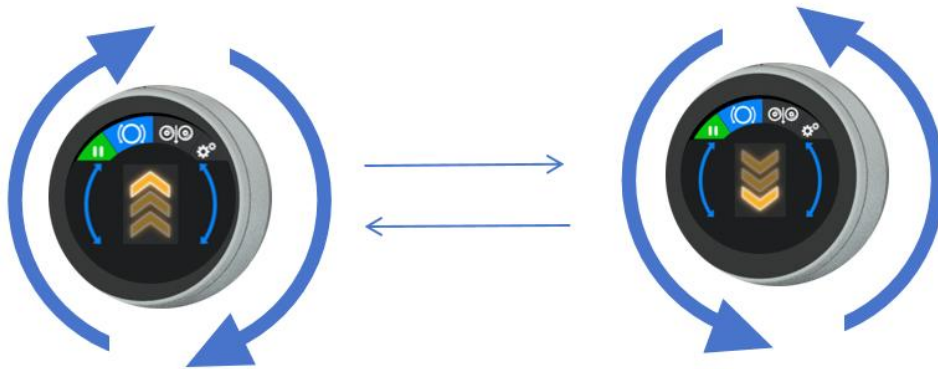

Figure 5.4 Interface Introduction
After startup, the system automatically enters the home page from the startup page, as shown in Figure 5.4. The home page includes ① : running status; ② Rotation adjustment; ③ Automatic wire feeding speed; ④ Settings page. Switch four interfaces via the [Rotate] screen;